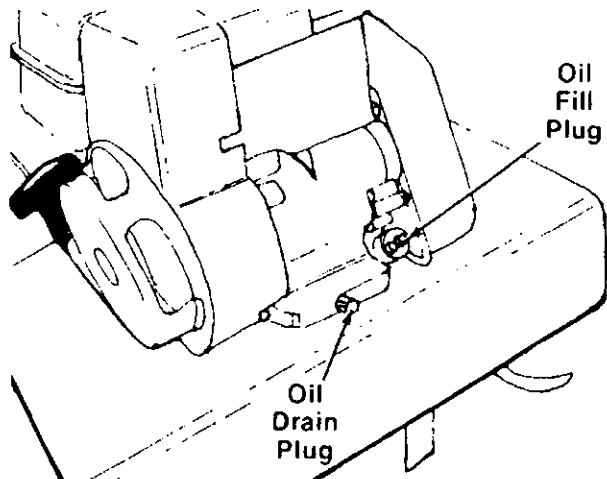

FIGURE 20.
1. Before starting, fill crankcase with 1¼ pints of oil full to point of overflowing. Be sure that the engine is level. See figure 20.
Change the oil in the crankcase after the first two hours of operation of your new engine and after each 25 hours of use thereafter to insure proper lubrication of internal parts. (Take care to remove dirt around filler plug.) Be sure oil level is maintained full to point of overflowing. See figure 20.
To change oil, remove drain plug and tip the tiller forward while engine is warm. See figure 20. Replace drain plug. Remove oil filler cap and refill with new oil of proper grade. Replace filler cap.